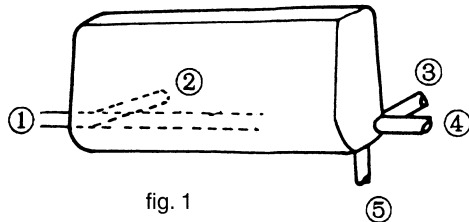

fig. 1
- The refrigerant piping can be routed to the unit in 5 direction, by using the cut outs in the unit casing. (See fig. 1)